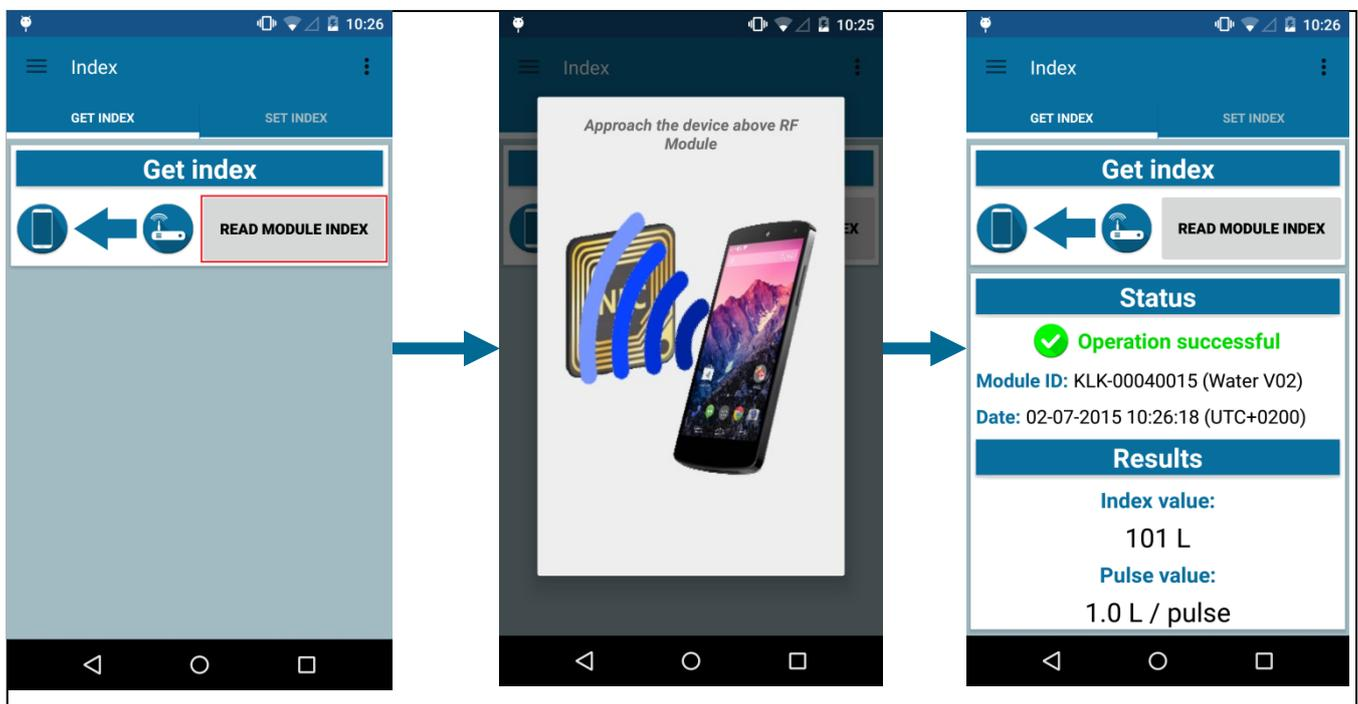

Figure 23: Get index operation
- Status of the operation, index value and pulse value are displayed on the screen as follows (Figure 23):